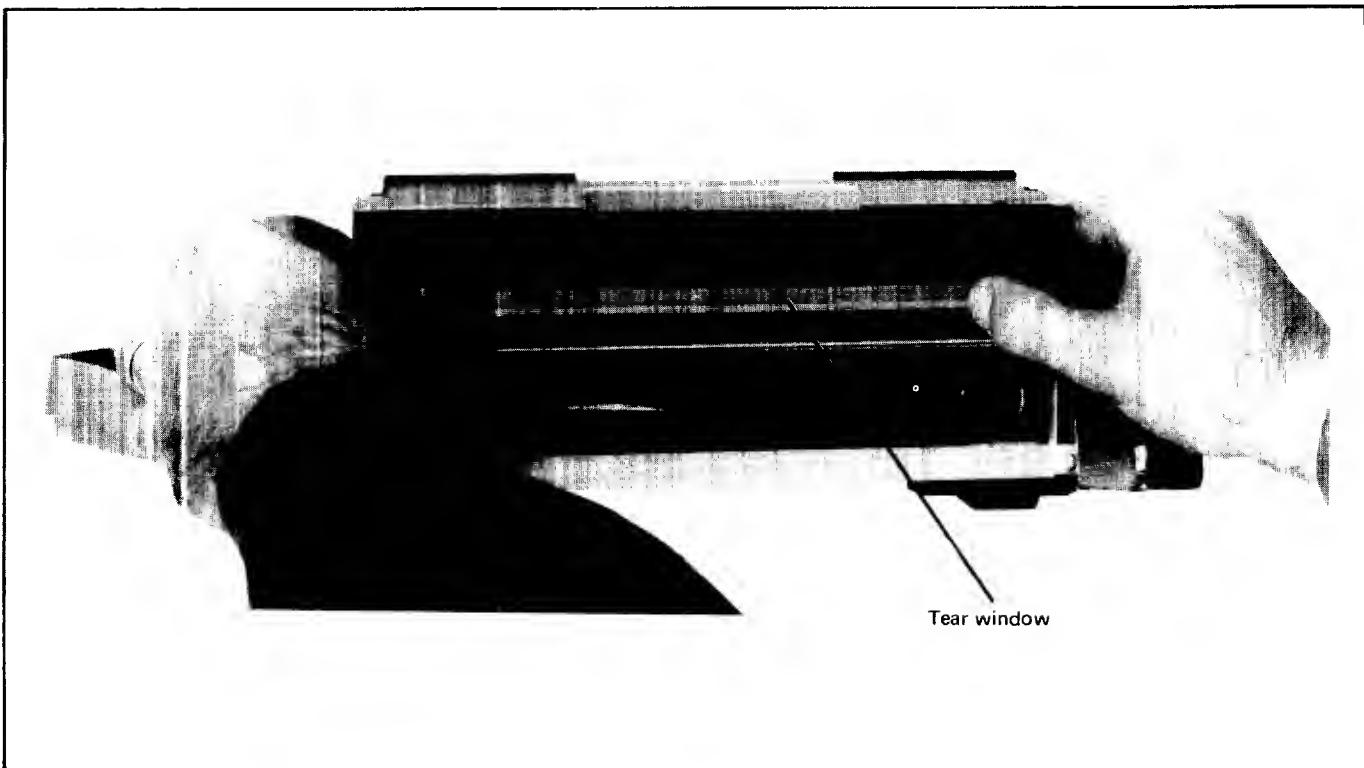

Figure 7-12 Tear Window
2. Remove tear window (see figure 7-12).